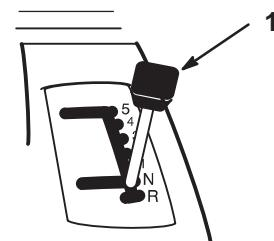

Figure 8
3. Move the ground speed selector into neutral (N) (Fig. 8).